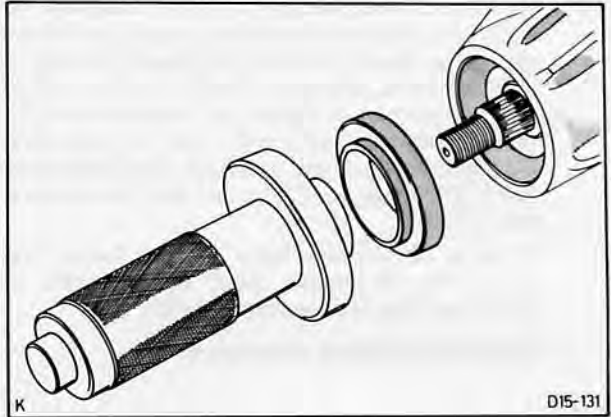

Fig. 120. Install oil seal with special tool no. 15-047B
32. Fit oil seal with Special Tool. Grease on seal when supplied must not be removed, Fig. 120.